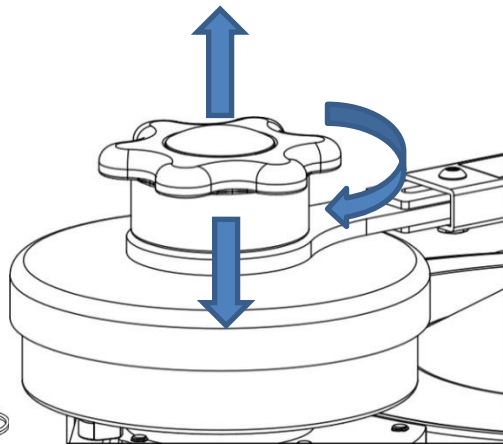

Figure 3
2. Lift and rotate activation knob 90 degrees until arrow points from "SRL" to "RESCUE" mode, the knob will drop in place. See figure 3.